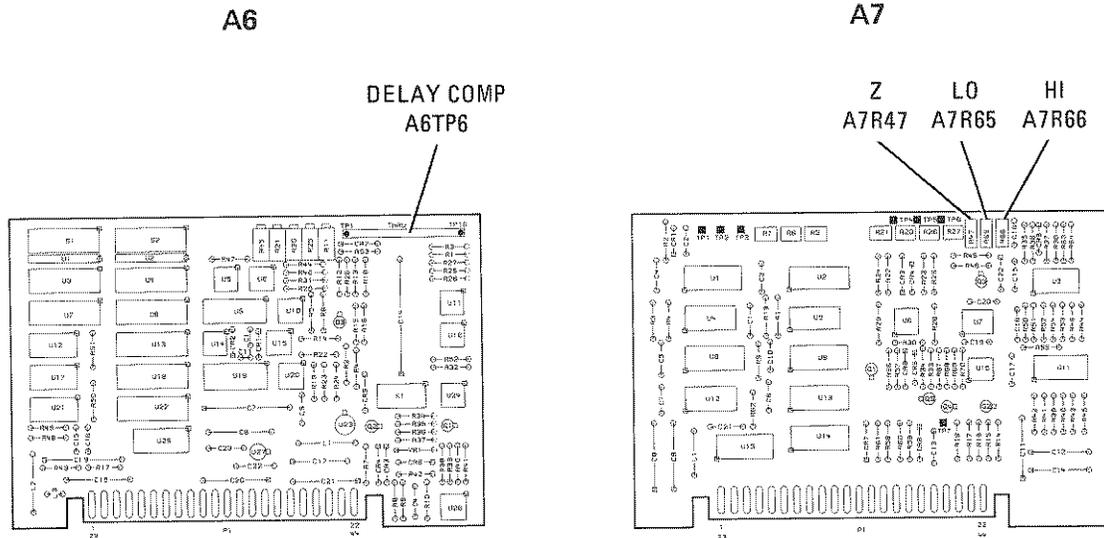

Figure 5-17. Delay Compensation Adjustments
5. Adjust "Z" control A7R47 on marker board (Figure 5-17) for the same reading at A6TP6 that was obtained in step 3 above. Remove DVM lead from A6TP6.
17. Adjust "LO" (low band) A7R65 on marker board (Figure 5-17) so the peak of the wavemeter pip is coincident with the leading edge of the marker.
22. Adjust "HI" (high band) A7R66 on marker board (Figure 5-17) so the peak of the wavemeter pip is coincident with the leading edge of the marker.